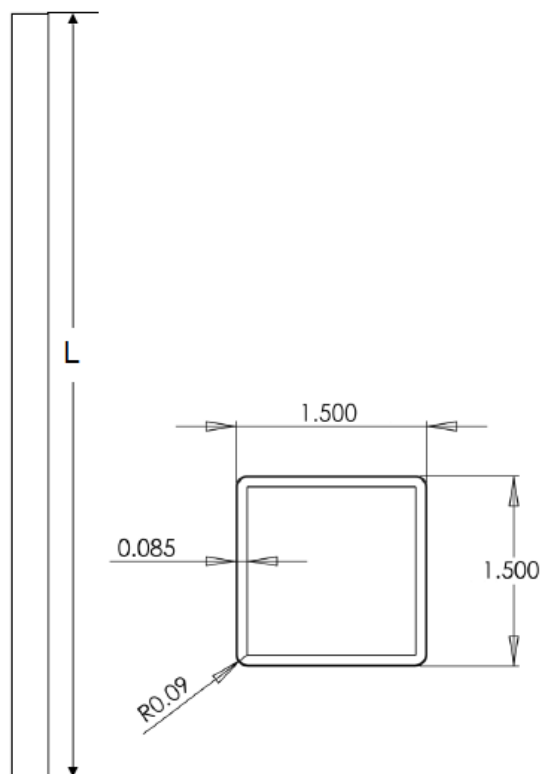

FIGURE 1 – VINYL PICKET
3.1.4. Balusters are 1.5" square and come in two styles, picket and spindle. Pickets are 1.5" square throughout its length. Spindles are 1.5" square at the ends and blow molded to form a turned spindle shape through the mid-section of the length. See Figures 1 and 2.